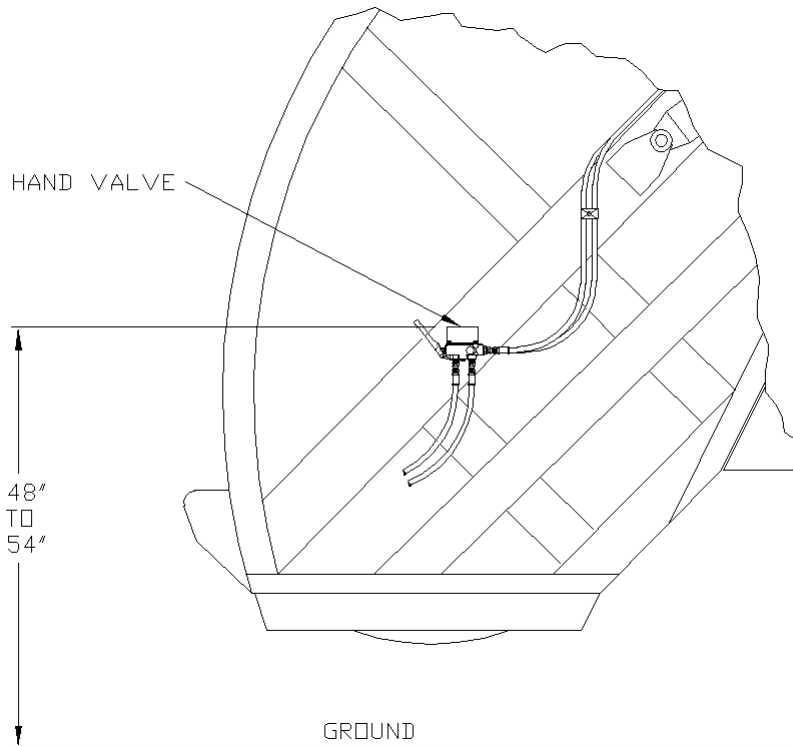

Figure A-2
1. Choose and mark an acceptable location(s) on the side(s) of the truck to mount the hand valve assembly(s). See Figure A-2.